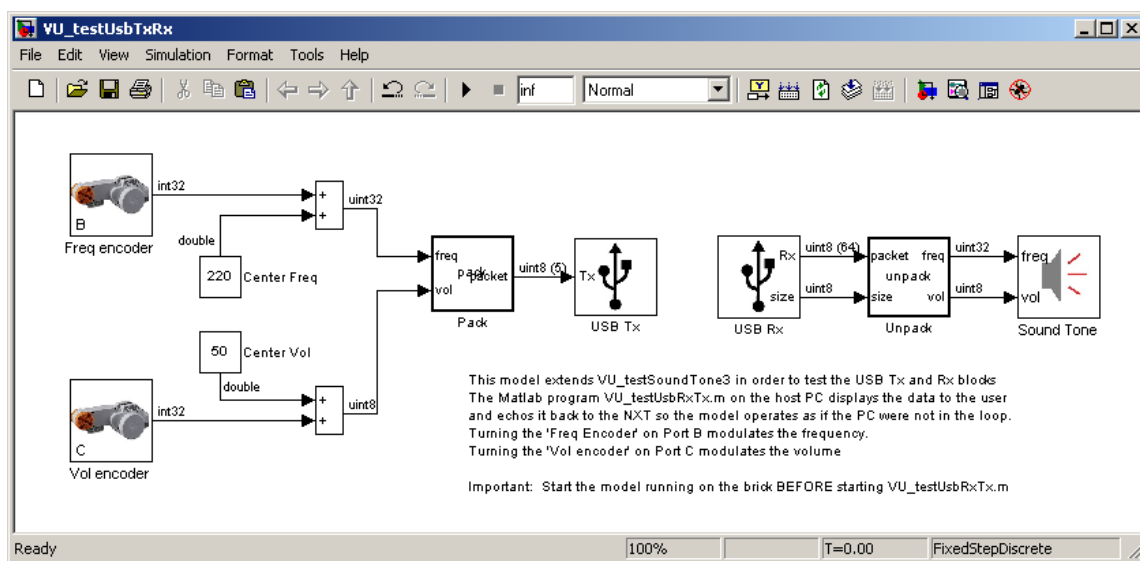

Fig. 11: The VU_testUsbTxRx example system
2. Open **VU_TestUsbTxRx.mdl** (Fig.11). The model is identical to the Sound Frequency and Modulation test exercise of section 5.3 and Fig.10, only instead of connecting the final frequency and volume signals directly to the Sound Tone block, the data is piped via the host PC and displayed to the user before being echoed back to the NXT and the Sound Tone block. The 'Pack' and 'Unpack' embedded Matlab functions serve to translate between the data-types used by the model, and the **uint8** data stream of bytes that is transmitted over USB.